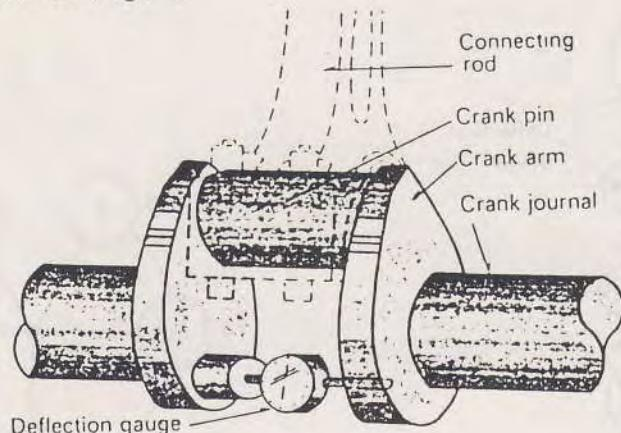

Fig. 2
- (1) Remove the cylinder side cover nearest the flywheel side and mount the deflection gauge between the crank arms as shown in Fig. 2